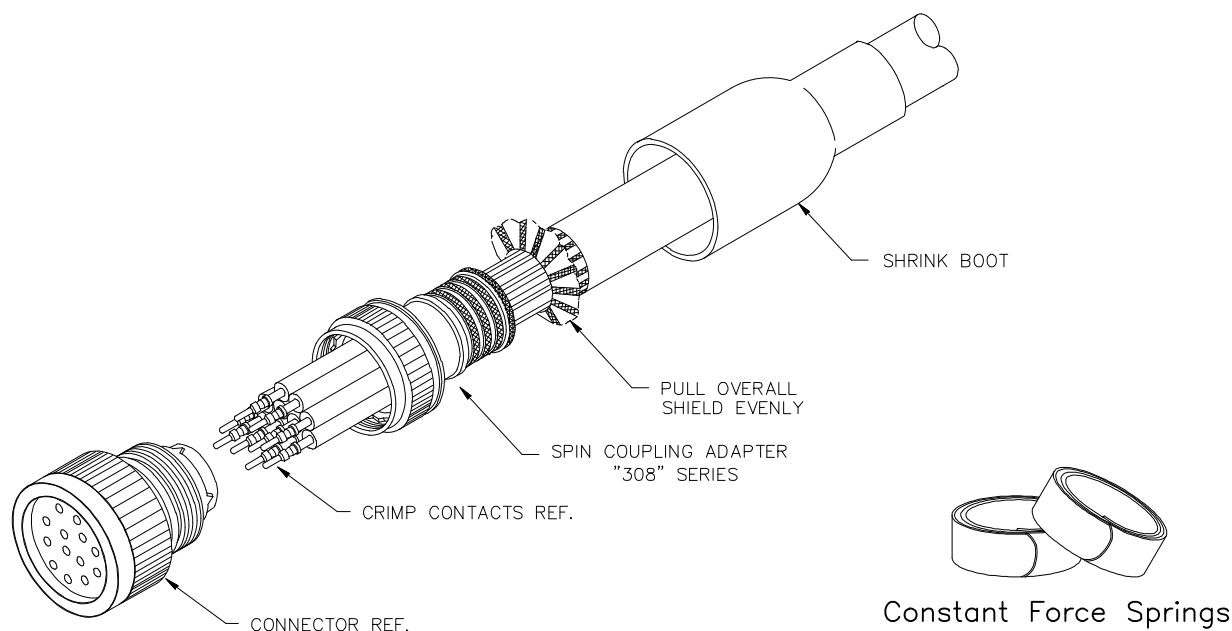

FIGURE 1A.
- STEP 1: Slide all backshell components onto cable in sequence shown. (FIGURE 1A)